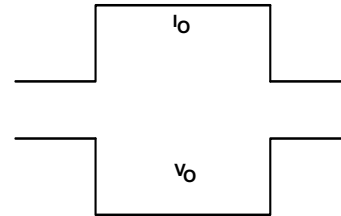
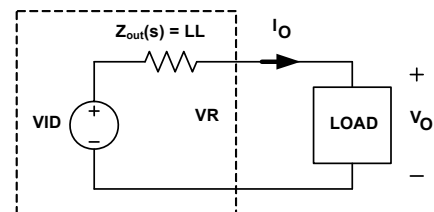

FIGURE 17. DESIRED LOAD TRANSIENT RESPONSE WAVEFORMS
FIGURE 23. VOLTAGE REGULATOR EQUIVALENT CIRCUIT
Assuming the compensator design is correct, Figure 17 shows the expected load transient response waveforms if C_n is correctly selected. When the load current I_{core} has a square change, the output voltage V_{CORE} also has a square response.
Figure 17 shows the desired load transient response waveforms. Figure 23 shows the equivalent circuit of a voltage regulator (VR) with the droop function. A VR is equivalent to a voltage source (= VID) and output impedance $Z_{out}(s)$. If $Z_{out}(s)$ is equal to the load line slope LL, i.e., constant output impedance, in the entire frequency range, V_o will have square response when I_o has a square change.